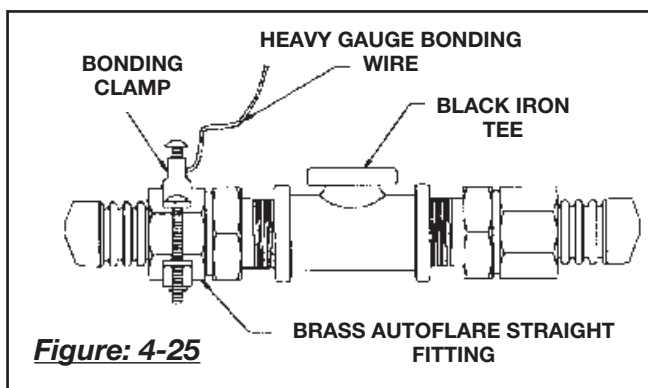

Figure: 4-25
1. When additional bonding of the **CounterStrike**[®] or **TracPipe PS-II**[®] system is required by local codes, a bonding clamp must be attached to either the brass **AutoFlare**[®] fitting adapter (See Figure: 4-25), or to a black pipe component (pipe or fitting) within the gas piping system. The corrugated stainless steel portion of the gas piping system SHALL NOT be used as the bonding attachment